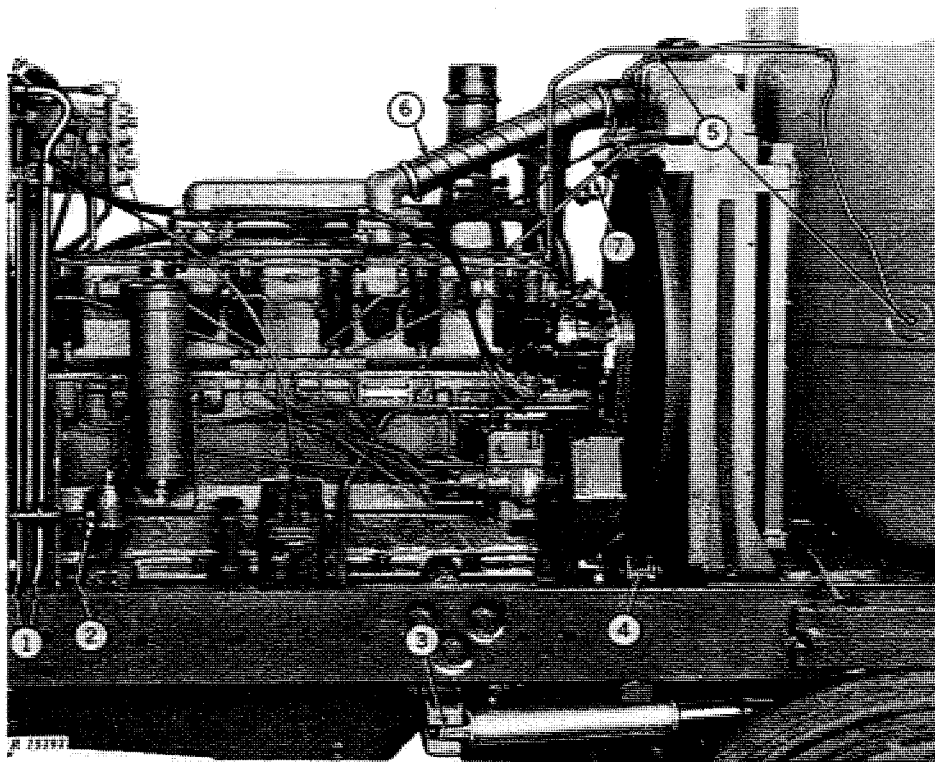

Fig. 6—Separation Procedures on Right-Hand Side
1. Refer to Fig. 6 and disconnect right-hand steering cylinder pipe and hydraulic pressure pipe at fittings before the engine oil cooler.